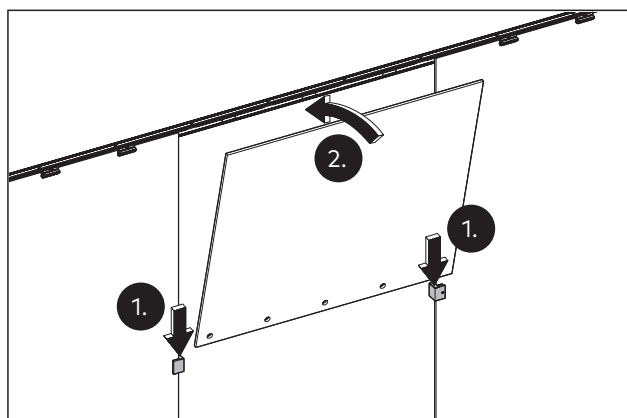

Fig. 6 Inserting the overpanel
4. Position the overpanel on the mounting aids (Fig. 6/1) and swivel against the mounting profile (Fig. 6/2).